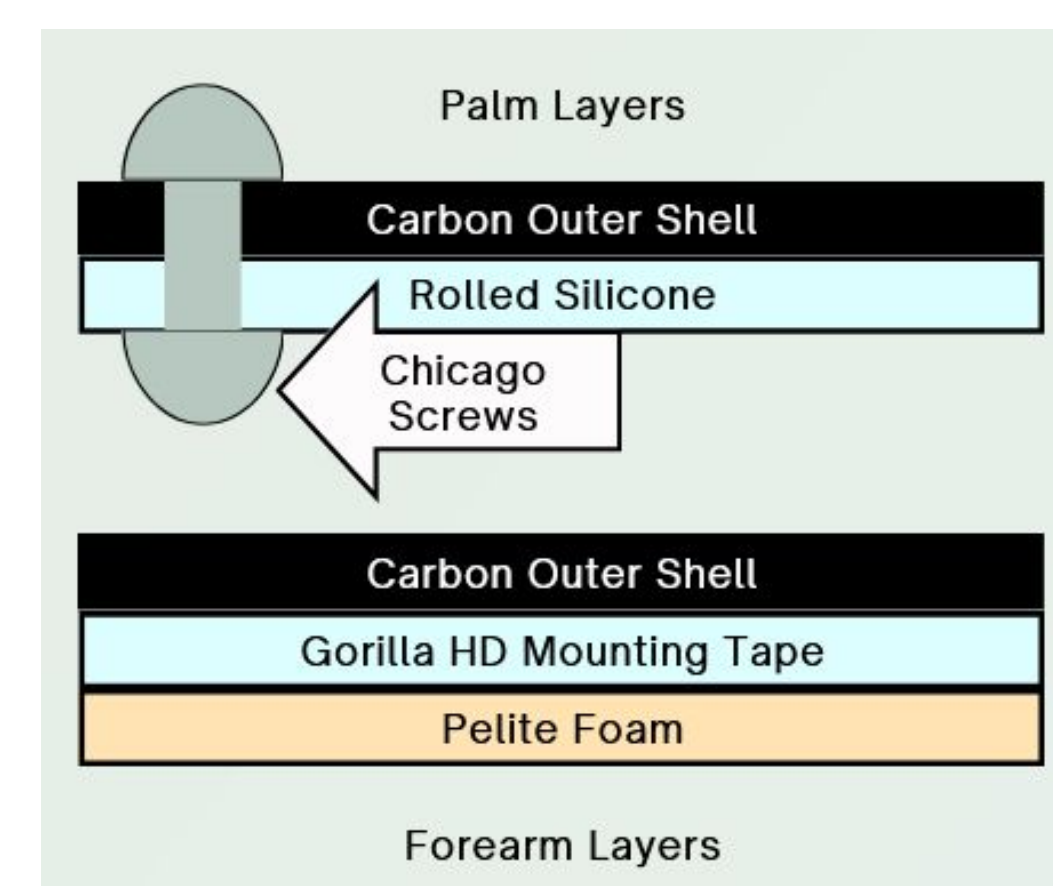

Figure 1. Palm/Sleeve Layering Diagram
- Both variations feature the protective carbon outer shell seen in *Figure 1* bound against rolled silicone chosen for its pliability. Chicago screws combine the layers for minimal protrusions while maintaining tight contact.